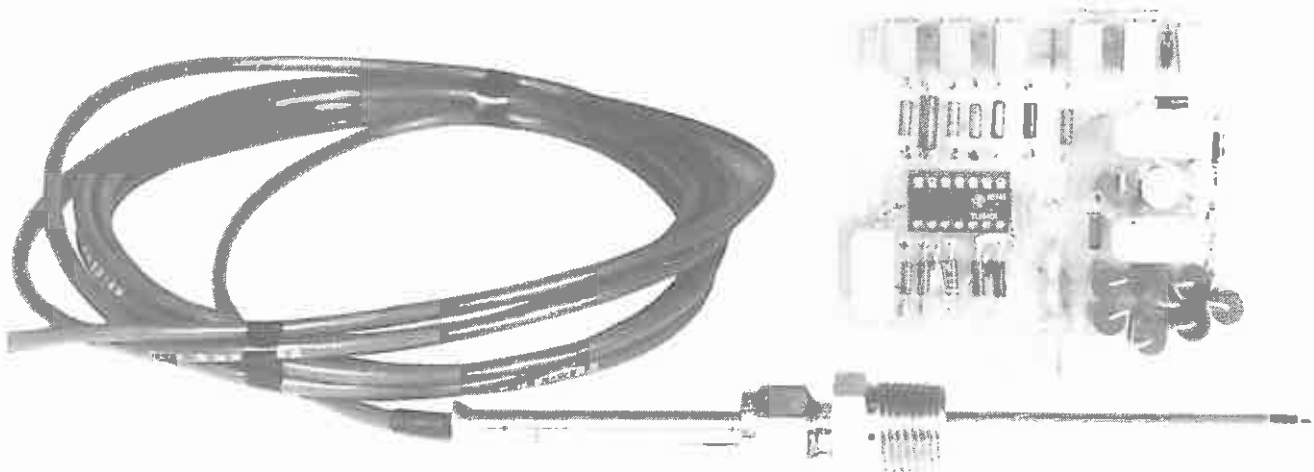

Figure 1-7. Model 300-AT Ambient Temperature Accessory.
1.2.6 Model 300-AT Ambient Temperature Accessory (Figure 1-7)